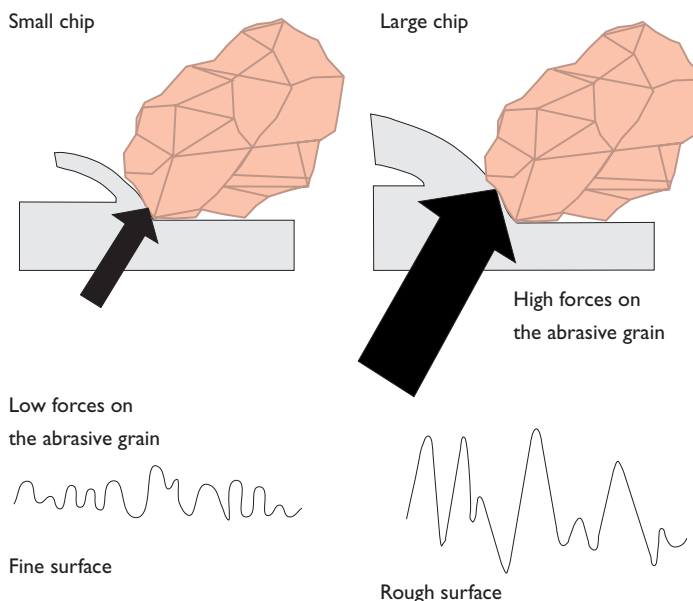

Figure 3. A large chip size results in a rougher surface finish on the workpiece.
2. The surface of the part being ground is coarser, see Figure 3.